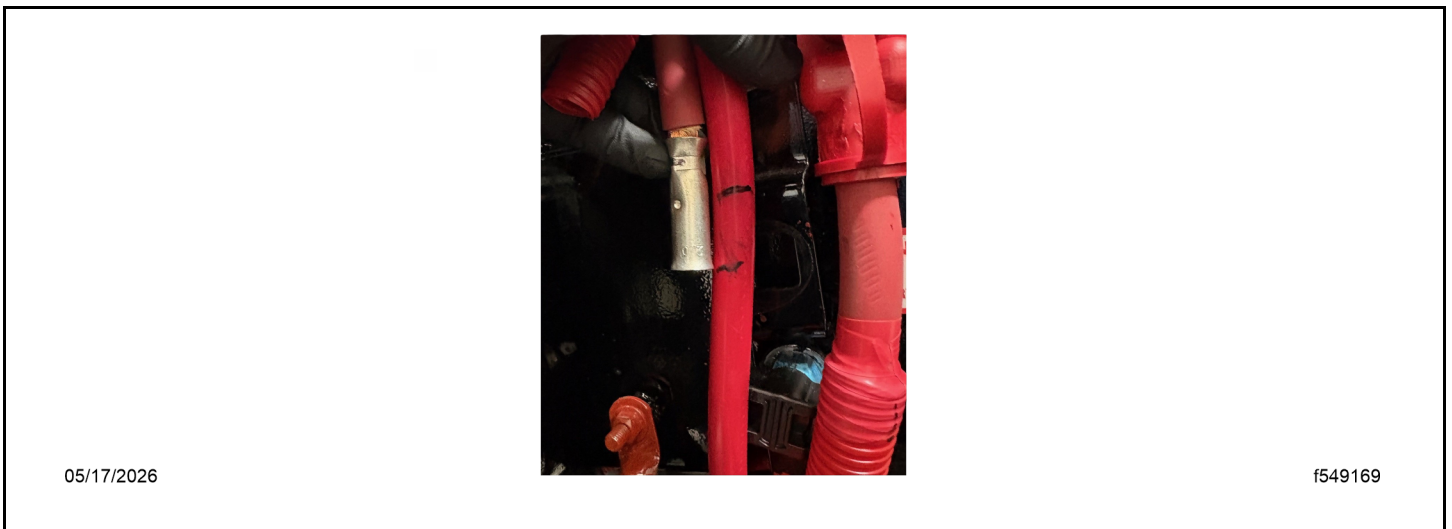

Fig 83, Determining the BCA Cable Length
38. Determine the ideal length for the new auxiliary BCA cable and starter cable between the starter and butt connector. Cut the cables. See Fig. Fig. 83.